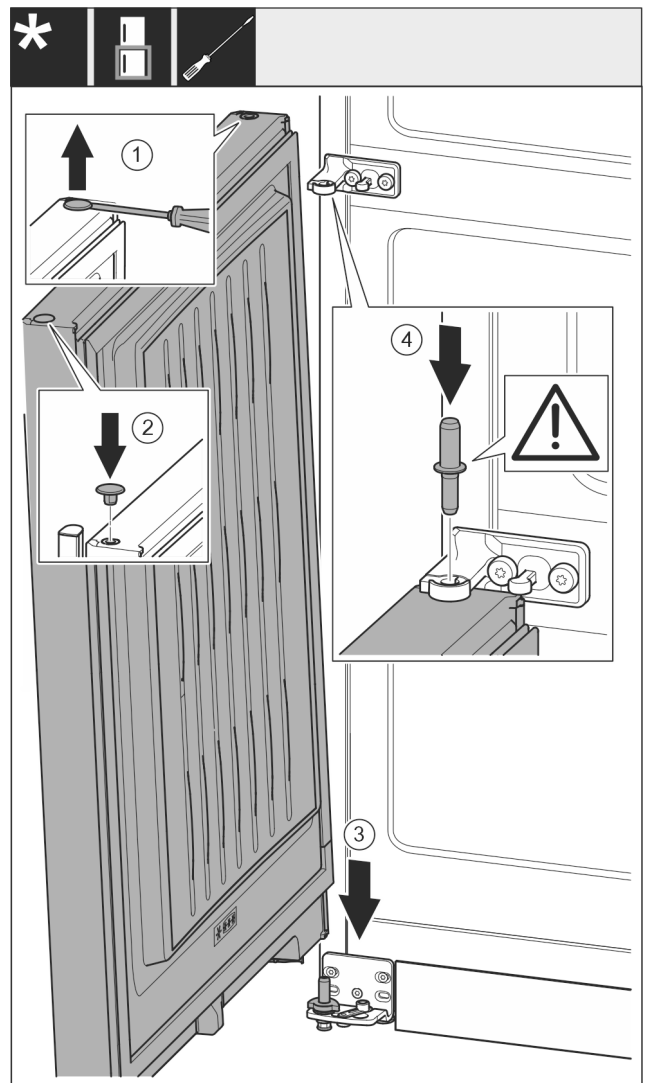

Fig. 19
- ▶ Carefully lift up the plugs with a slotted screwdriver and pull them out. Fig. 19 (1)
- ▶ Insert the plugs again on the other side of the door. Fig. 19 (2)
- ▶ Position the door from above onto the lower bearing pins. Fig. 19 (3)
- ▶ Insert the center bearing pin through the center bearing bracket into the bottom door. Make sure that the latching lug is pointing to the rear. Fig. 19 (4)